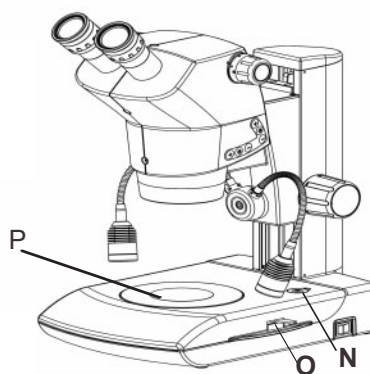

Fig. 6
4. For illumination press On/Off button (N) on Dark field base. Refer figure. 6.
5. Place the transparent specimen plate (P) on DF/BF base. Refer fig. 6.
6. Achieve Dark Field Illumination by push back the Lever (O). Pull the same lever (O) to front to achieve Brightfield Illumination.